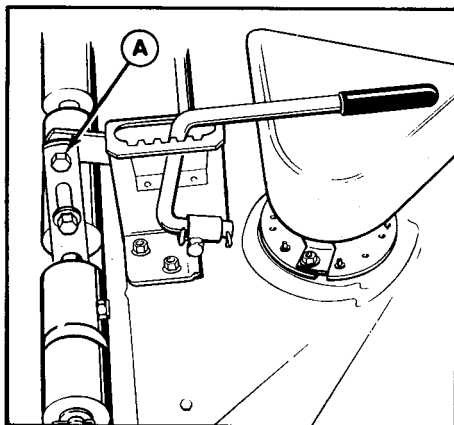

**Figure 40. Mower Hitch (shown removed from tractor)**
6. Loosen the capscrew (A, figure 40) and flange nut (B) in the right mower hitch.
8. Retighten the capscREW and flange nut (B, figure 40). Torque capscREW (A) to 50 ft. lbs. Torque nut (B) to 65 ft. lbs.